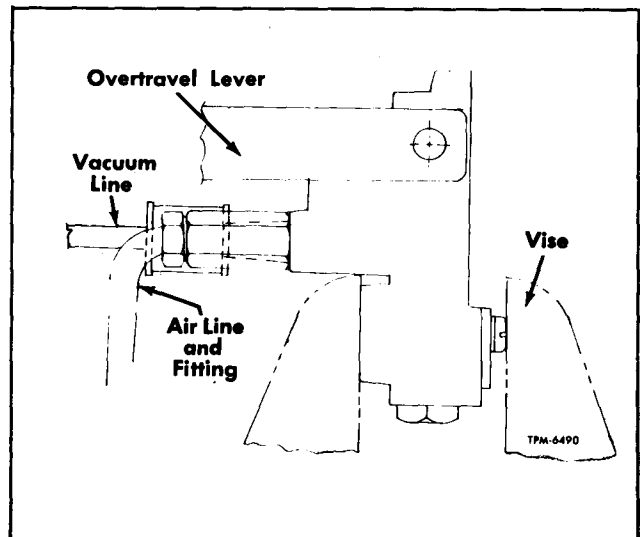

Figure 56—Valve Positioned for Time Delay Check
3. Place valve assembly vertically in holding vise (figure 56).